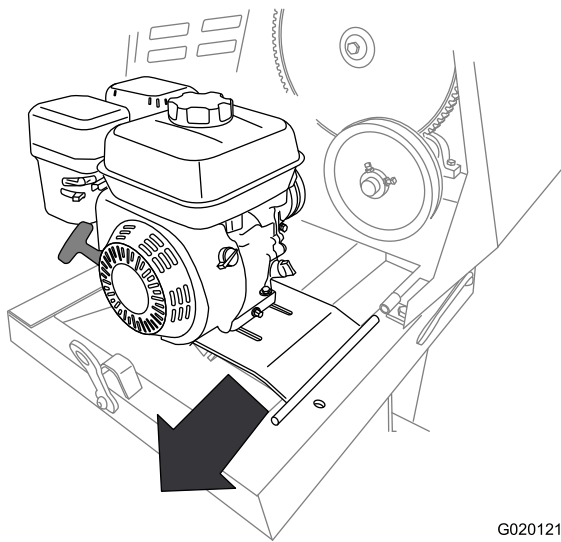

Figure 55
- 8. Slide the engine deck rearward and out from the forward hinge bracket (Figure 55).
9. Remove the engine and engine deck from the machine (Figure 55).
2. Align the pivot on the engine deck with the forward hinge bracket (Figure 55).
3. Slide the engine deck forward and the pivot into the forward hinge bracket (Figure 55).
4. Align the rear hinge bracket with the pivot on the engine-deck hinge (Figure 55).